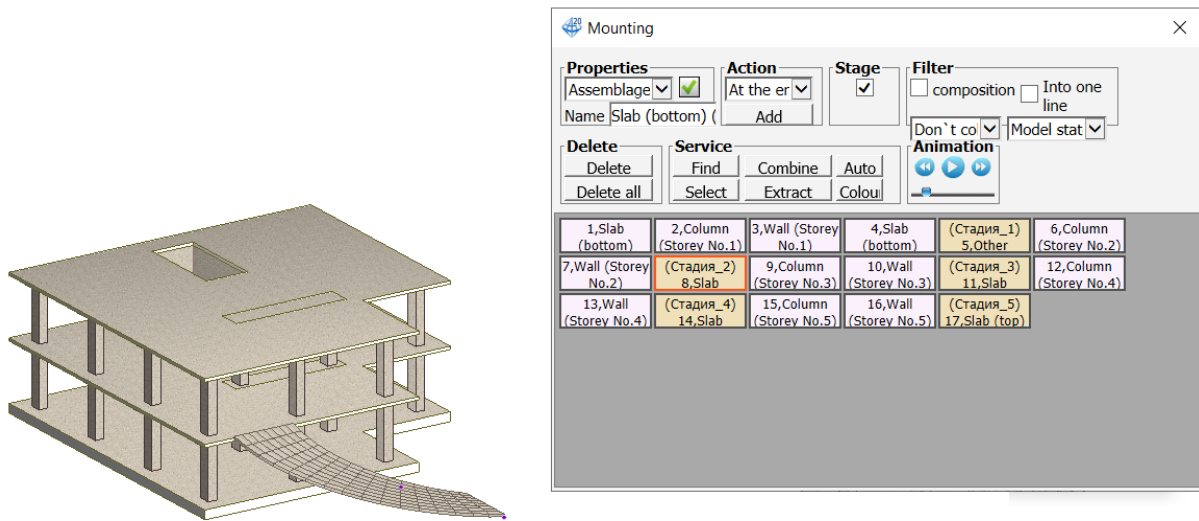

Figure 23.20. The second stage of assemblage
- ➔ Click the **Play assemblage events** button to visualize the animation of events and stages (see Fig. 23.20; 23.21).